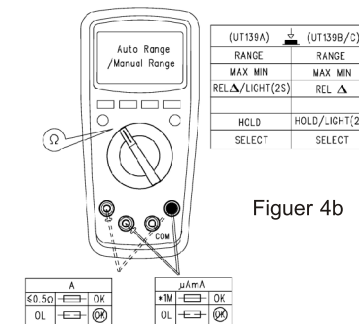

Figure 4b
- \* By using the resistance measurement function, it is allowed to make self-checking of the built-in fuse, see (Figure 4b).